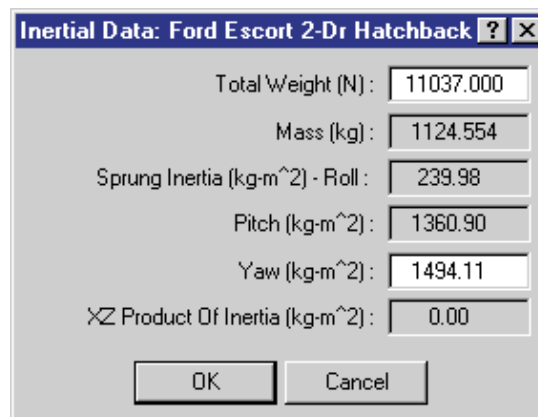

Figure 5-3 Vehicle Inertias dialog, used for editing the current weight and yaw inertia (roll and pitch inertias are not used by EDSMAC4).
- Click on the CG and choose *Inertias*. The Inertias dialog is displayed (see Figure 5-3), and we're ready to change the vehicle's weight.